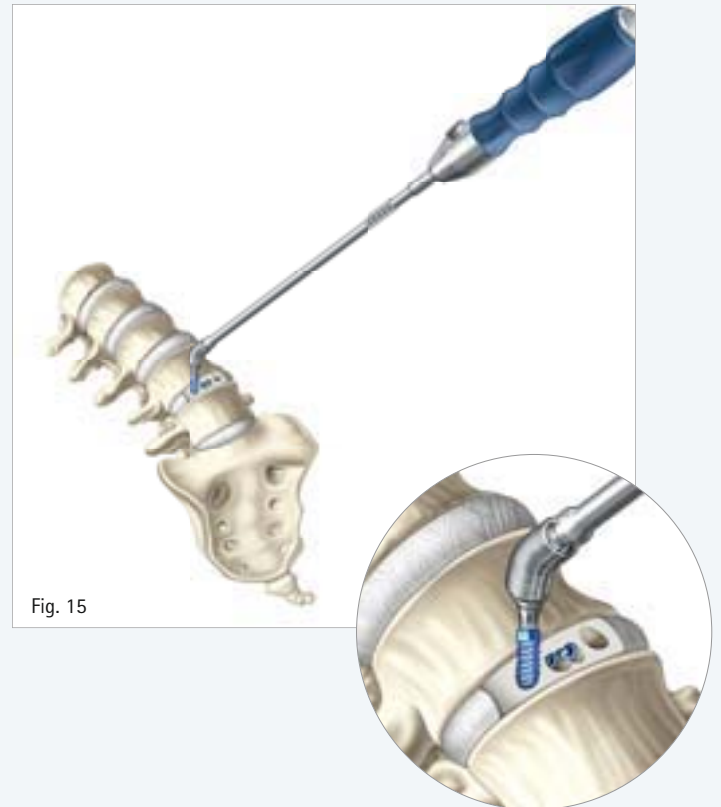

Fig. 15
- Turn the U-Joint screwdriver in a clockwise motion to advance the bone screw into the vertebral body (Fig. 15).